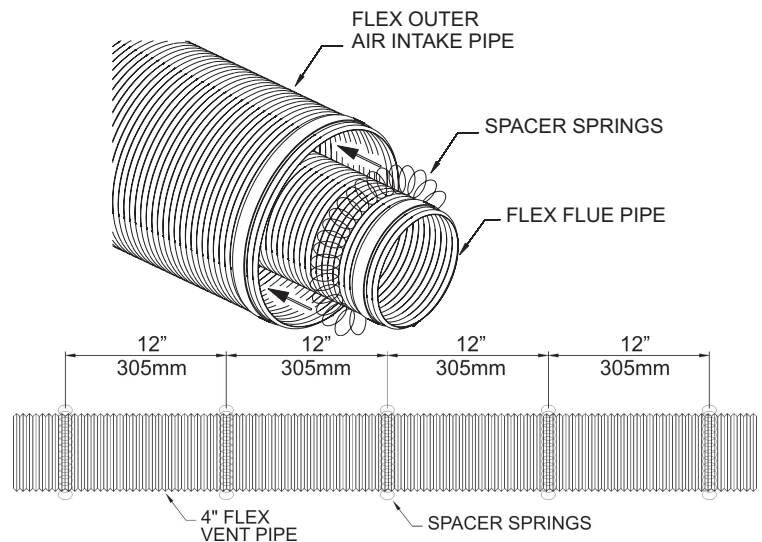

Figure 28
9. Install the spring spacers provided around the 4" diameter flex flue at 1 foot intervals, then slide the flue pipe with spacers into the 7" diameter outer flex vent pipe. Make sure the springs are spaced evenly starting at 12 inches from the fireplace collar. See **Figure 28**.